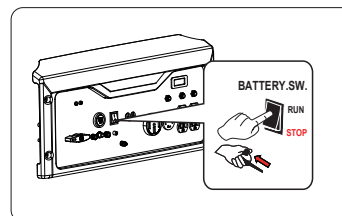

Fig 17
1. Turn the battery switch to the “STOP” position. (See fig 17)